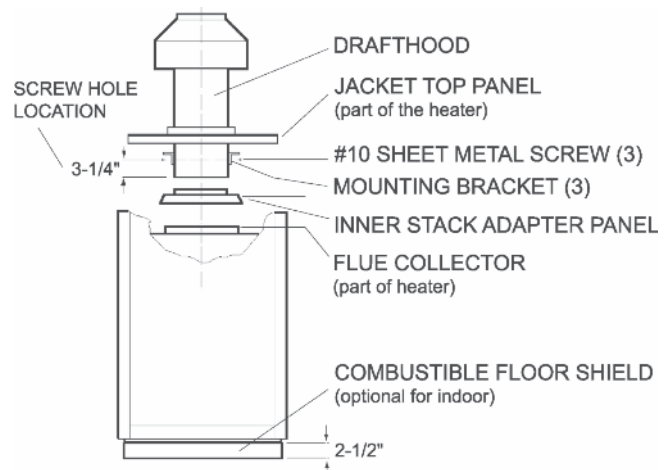

Fig. 8: Indoor Installation—Models 0181-0401 & 0182-0400
1. Remove the louvered jacket top by removing four (4) #10 flathead screws.
6. Attach the three (3) mounting brackets to the stack using the screws provided and the holes that are pre-drilled in the stack. **Make sure the brackets are positioned with the flange near the top side of the stack (see Fig. 8). Caution must be taken not to over tighten and strip the screw threads.**
7. Turn the assembled stack and jacket top, rightside up. The jacket top will be trapped between the brackets and the top of the stack. Place the stack over the inner stack adapter panel flanged hole and lower the louvered jacket top panel back into its original position. Reinstall the four (4) #10 flat-head screws removed in step 1 above.